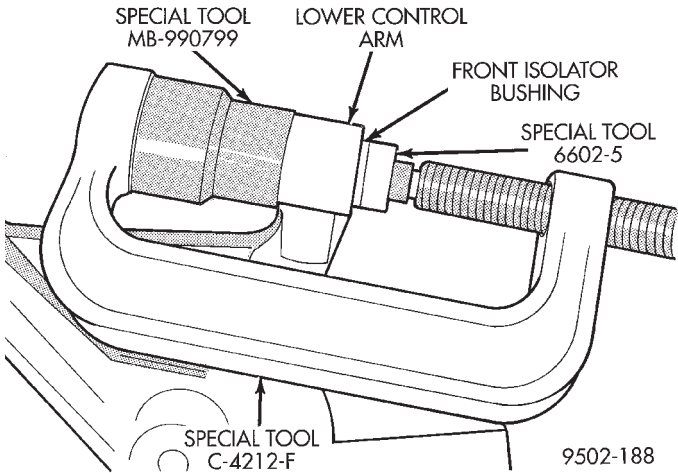

Fig. 87 Removing Front Bushing From Lower Control Arm
(1) Remove lower control arm assembly from vehicle. See Lower Control Arm Removal in this section of the service manual for the required removal procedure.
(2) Install Bushing Remover, Special Tool 6602-5 and Bushing Receiver, Special Tool MB-990799 on Special Tool C-4212-F.
(3) Install lower control arm on Special Tools assembled for removal of the front isolator bushing. Be sure Special Tool MB-990799 is square on lower control arm and Special Tool 6602-5 is positioned correctly on isolator bushing (Fig. 87).
(4) Tighten screw on Remover/Installer Special Tool C-4212-F to press front bushing out of lower control arm.